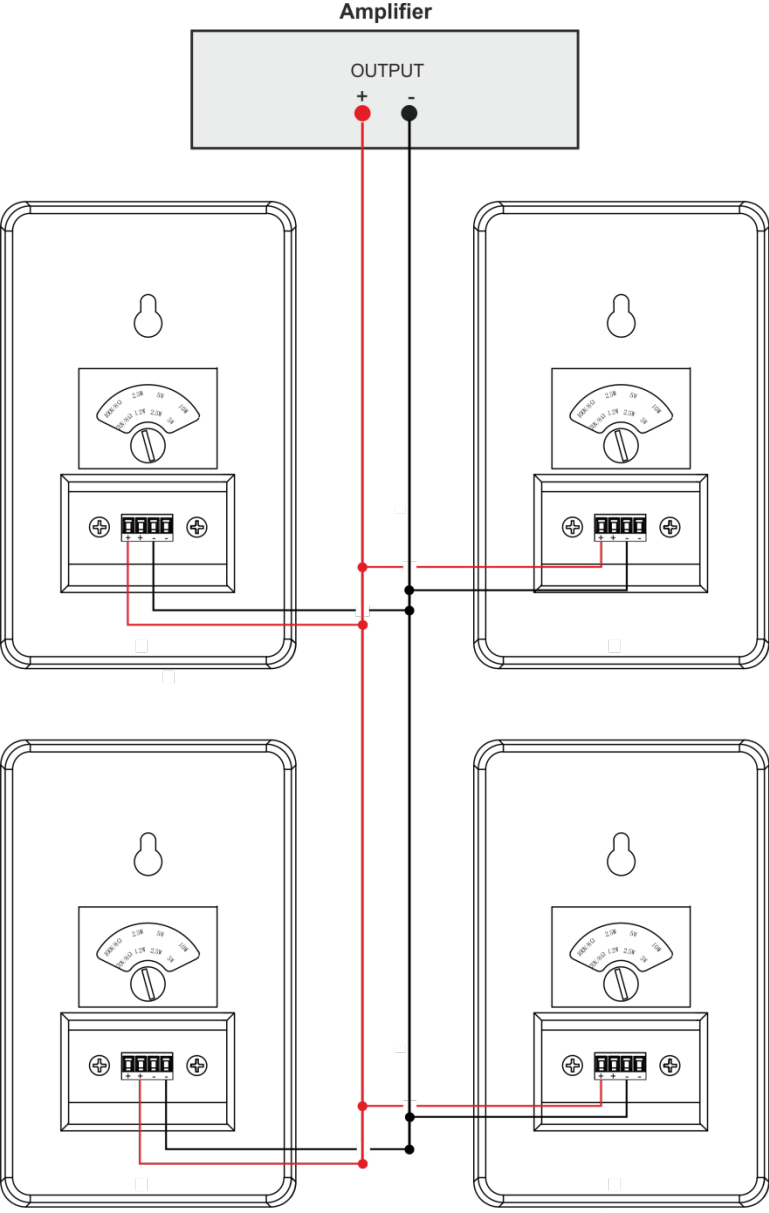

Figure 6: Square Layout Parallel Wiring
7. If required, connect the + and - terminal blocks to the + and - terminal blocks to an adjacent speaker (as illustrated in the example in Figure 6).
Figure 6 shows an example of parallel wiring in a square array installation: